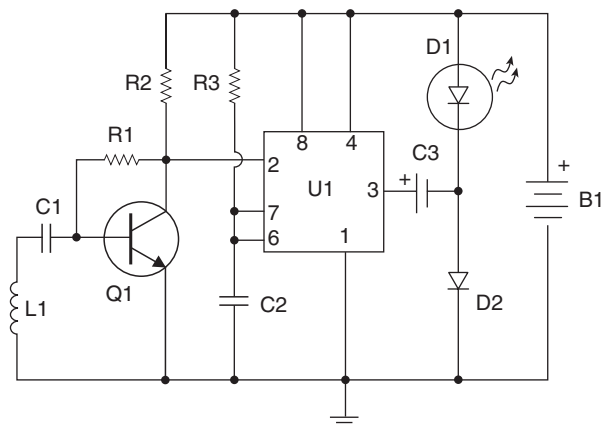

Figure 13-1 *Silent Cellular Phone Ringer* (Courtesy Redcircuits.com)
The heart of the Silent Cell Phone Ringer circuit is the integrated circuit (IC) at U1, which is shown in Figure 13-1.